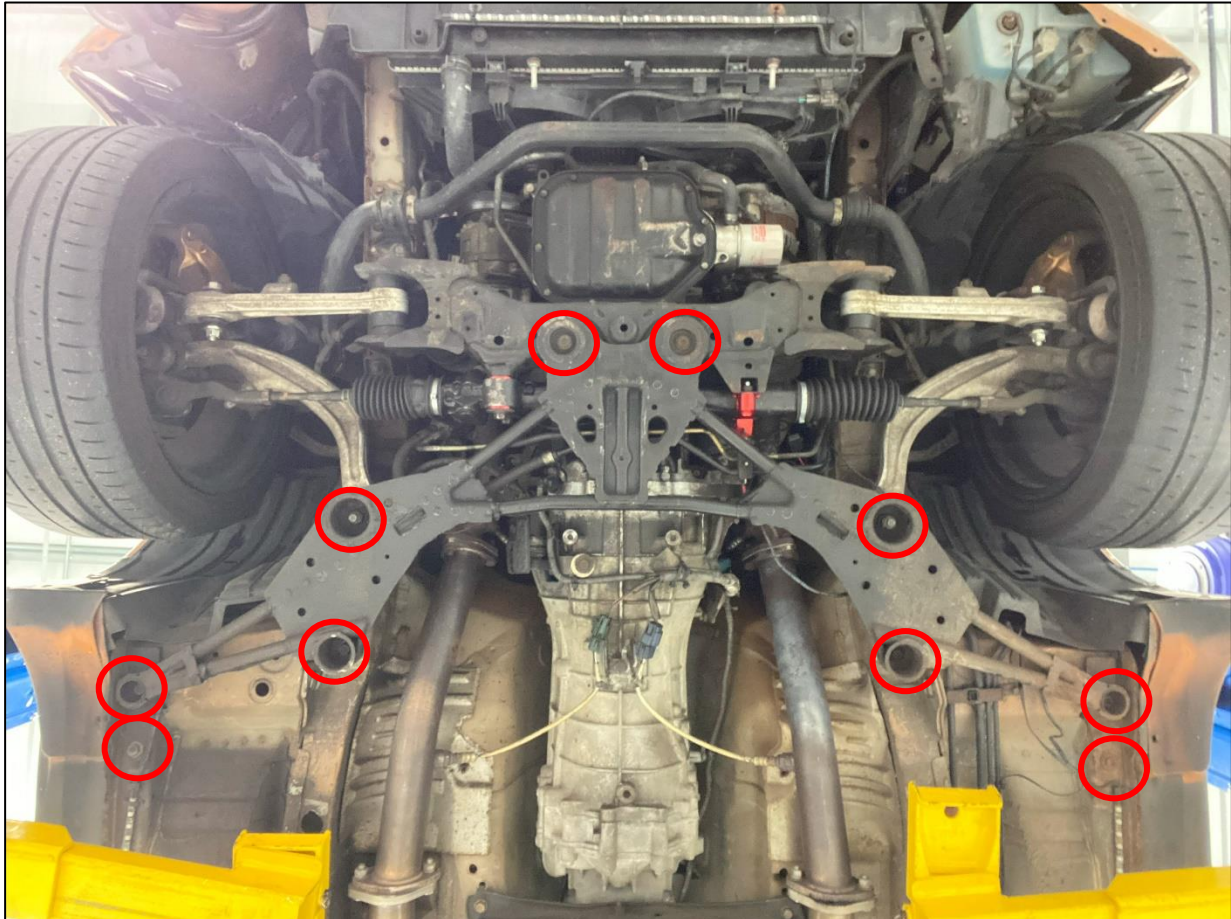

Figure 1
3. Remove the (8) eight bolts circled below and remove the OE Front Subframe Brace from the vehicle. *Figure 1.*